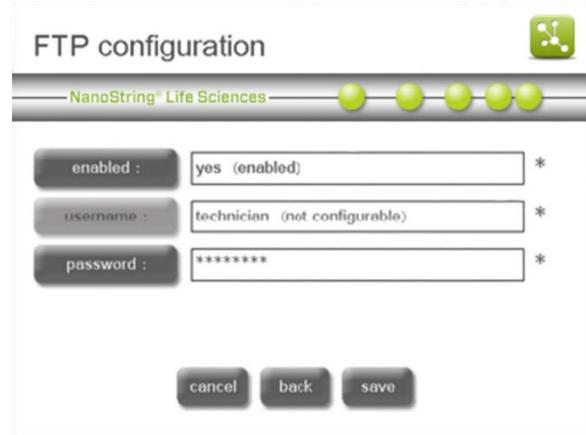

Figure 147: The ‘FTP configuration’ screen.
1. To configure FTP access to the Digital Analyzer, select **FTP** on the ‘System Setup’ screen. The ‘FTP configuration’ screen will appear (**Figure 147**). The default FTP username is set to “technician.” The username cannot be changed.